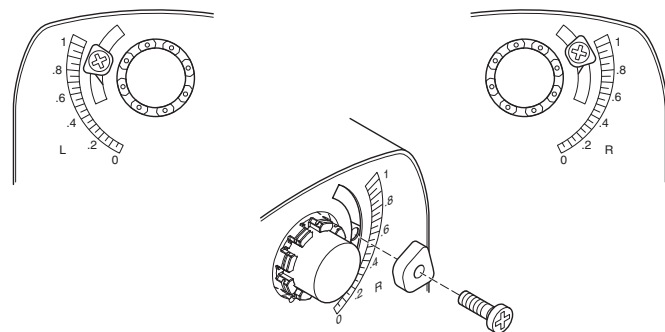

Figure-2 Adjusting Stop Block for Limited Rotation.
4. Slide the stop block into position, so that its edge lines up with the degree graduation on the actuator face which corresponds with the required rotation. See Figure-2.